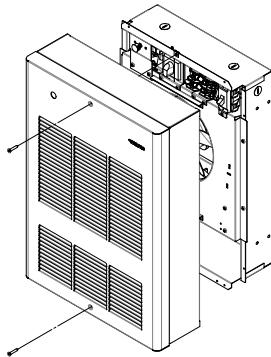

FIG. 8
2. Unscrew the two (2) screws holding the grille (see figure 8) and remove.
8. Put back the grille and tighten with two (2) screws removed previously (see figure 8).
2. Unscrew the two (2) screws holding the grille (see figure 8).